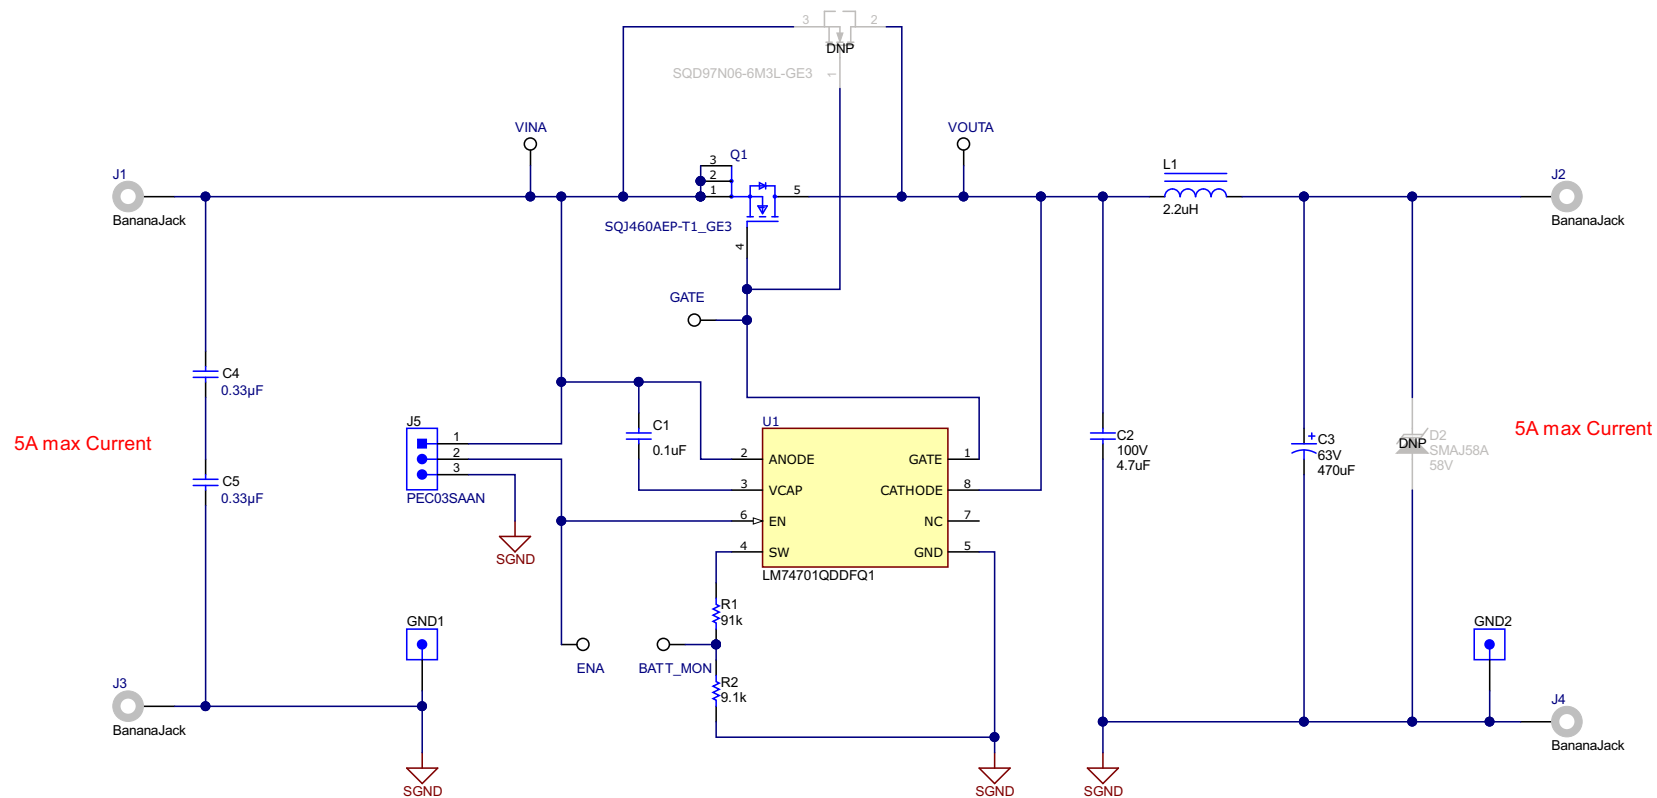

Figure 2-3. LM74701-Q1EVM Schematic
Figure 2-3 illustrates the EVM schematic.
• Updated <a href="#">Figure 2-3</a> .....	<a href="#">4</a>